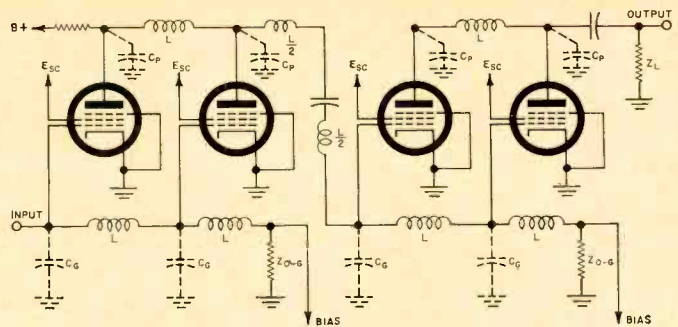

Fig. 2. Two cascaded stages are shown here. Note that each stage of amplification consists of two pentodes.
gain of any desired amount. As shown in Fig. 2, the output from the plate line of the first stage supplies the voltage that is applied to the grid line of the second stage. Since the gain of cascaded stages is multiplicative, the over-all gain (A) of a distributed amplifier is expressed by the formula: $A = (\frac{1}{2} E_g G_m Z_{o-p} N)^m$, where m is the number of stages, and N is the number of tubes per stage.